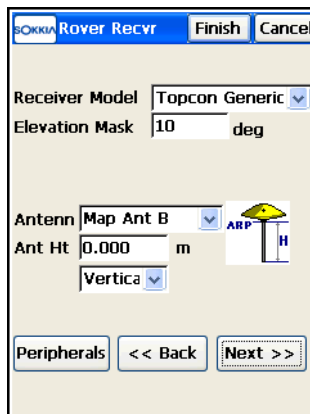

Figure 4-58. Rover Receiver (PP Kinematic or PP DGPS)
3. Set the parameters for the Rover Receiver: Receiver Model, Elevation Mask, and Rover antenna parameters (Figure 4-58), then tap **Next**.